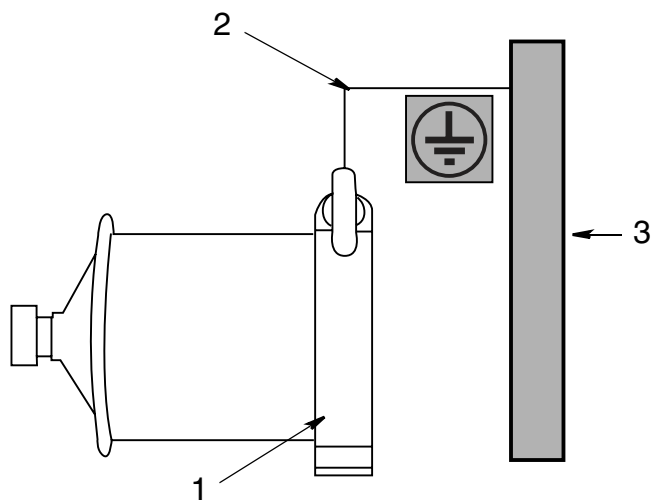

FIG. 3
1. Insert lubrication canister inside grounding clamp (1) making sure bottom of canister is flush mounted to the grounding clamp as shown in FIG. 3.
2. Attach a grounding cable (2) between the grounding bracket (1) and an earth contact (3) as shown in FIG. 3.